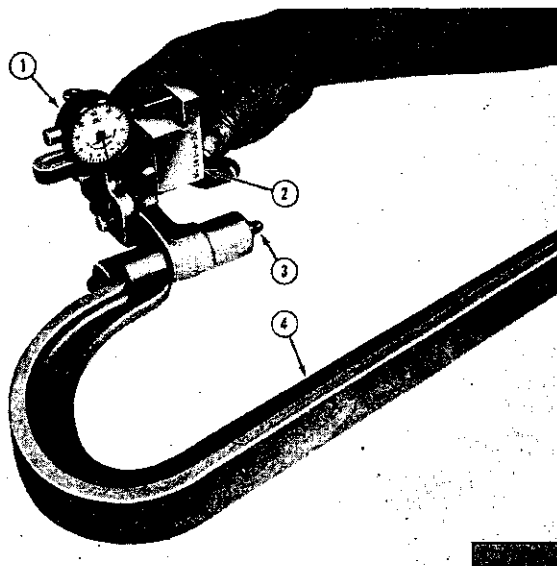

FIG. N-28—SETTING PINION GAUGE FOR MODEL 27AF AXLE DIFFERENTIAL
- f. Place the gauge block against the machined surface of the dial indicator mount, as shown in Fig. N-28.